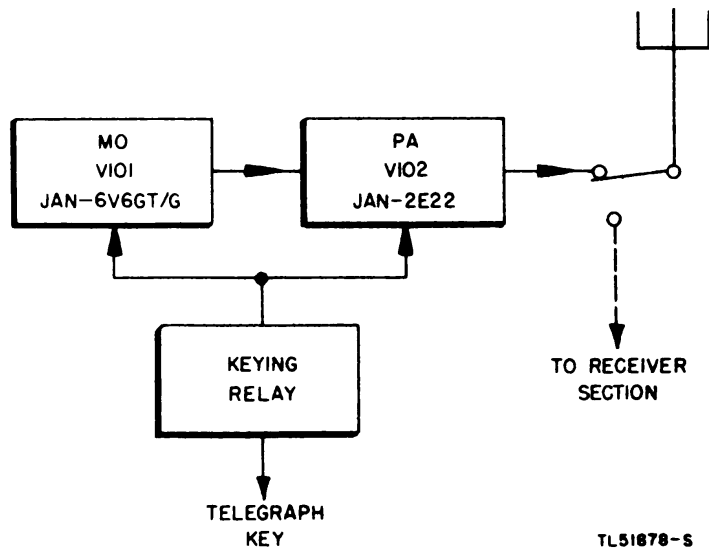

Figure 33. Transmitter section, block diagram.
The crystal-controlled master oscillator (fig. 33) establishes the r-f signal frequency on which the transmitter operates. This signal is fed to the p-a stage where the signal is amplified and is then applied through the antenna switch to the antenna. A keying relay is provided under control of a telegraph key inserted in the KEY jack on the receiver-transmitter front panel. When operated, this relay applies plate and screen voltage to the oscillator stage, and applies screen voltage to the power amplifier. Therefore, operation of the telegraph key causes the transmitter to function and the c-w carrier to be radiated.
- b. Block diagram of the transmitter (fig. 33).